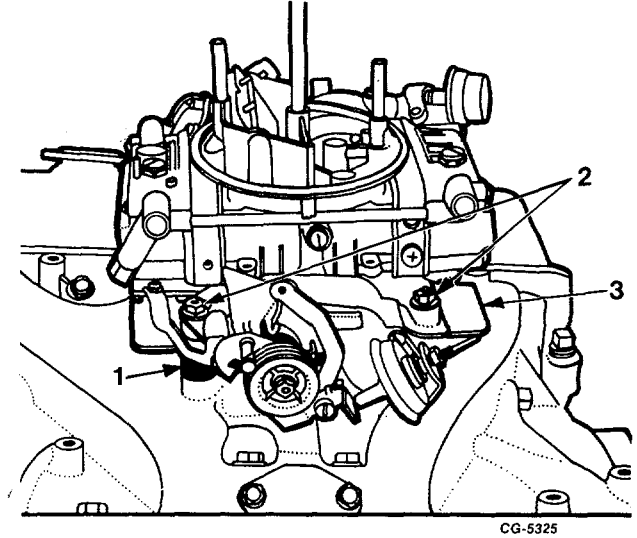

Fig. 32 Removing Carburetor
31. Remove carburetor nuts and washers, Figure 32. Remove carburetor, two gaskets and spacer plate